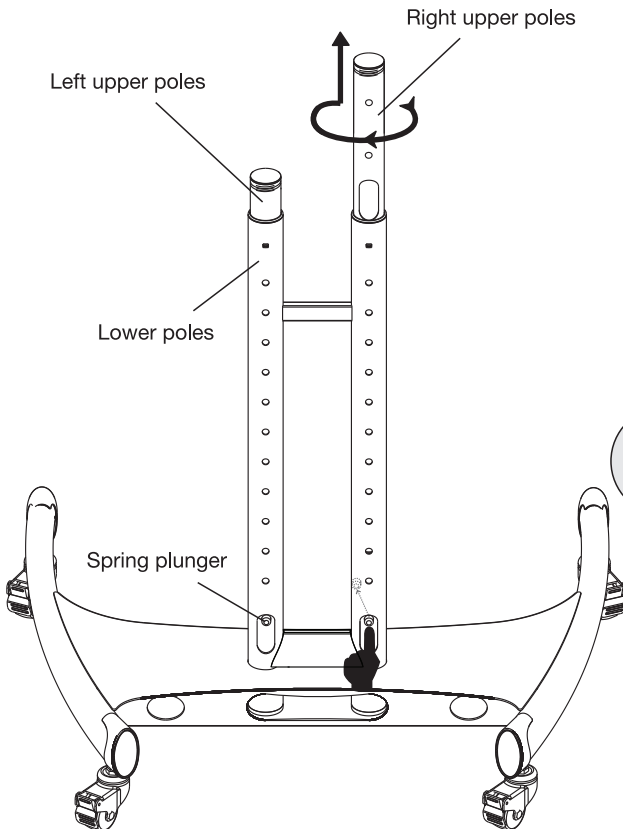

Figure 1
Step 1: Use thumb or finger to depress the right upper pole spring plunger ball located at the cable window, pull upper pole upward until your desired height. Twist upper pole toward plunger hole direction and engage the spring ball into the plunger hole and set as shown in Figure 1.